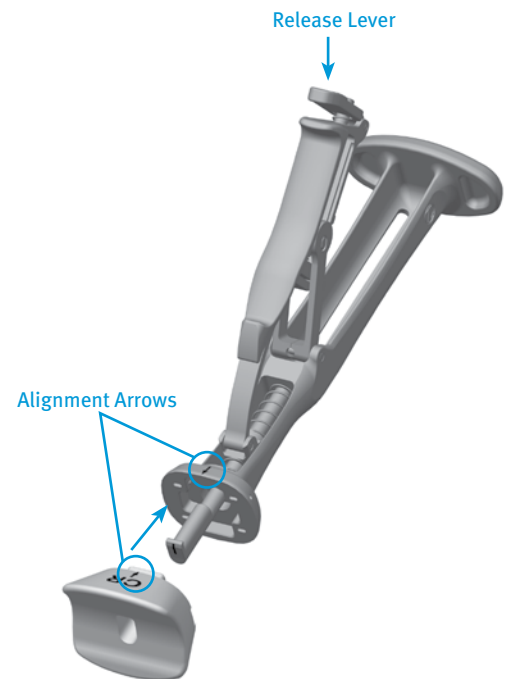

Fig. 25a
- Assemble the Femoral CR Impactor Pad to the Femoral Inserter/Extractor. Hold the Femoral Inserter/Extractor with the handle in the open position and insert the Femoral CR Impactor Pad, aligning the "CR" on the Femoral CR Impactor Pad with the arrow on the Femoral Inserter/Extractor (Fig. 25a). The Femoral CR Impactor Pad is keyed, so the Femoral CR Impactor Pad may have to be rotated while placing and aligning the Femoral CR Impactor Pad onto the Femoral Inserter/Extractor.